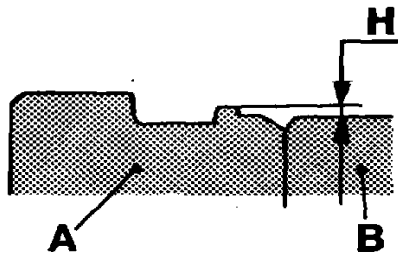

Fig. 66. The cylinder liner height above the block (H)
5. Check that the stepped edge of the liner (H, fig. 66) lies 0.24–0.29 mm (0.0094–0.0114") above the cylinder block surface on the 60 series, and 0.38–0.43 mm (0.0149–0.0169") (recommended height when **overhauling**: 0.40–0.43 mm (0.0157–0.0169") on the 70 series. This check is carried out by using a dial indicator and holder 2479. The measurements should be made at 4 diametrically opposite points. Check that the block surface is not damaged when zeroing the dial indicator. Set the dial to zero with the pointer sliding on the surface of the block. Transfer the indicator to the liner flange step. The holder should always move longitudinally along the block.